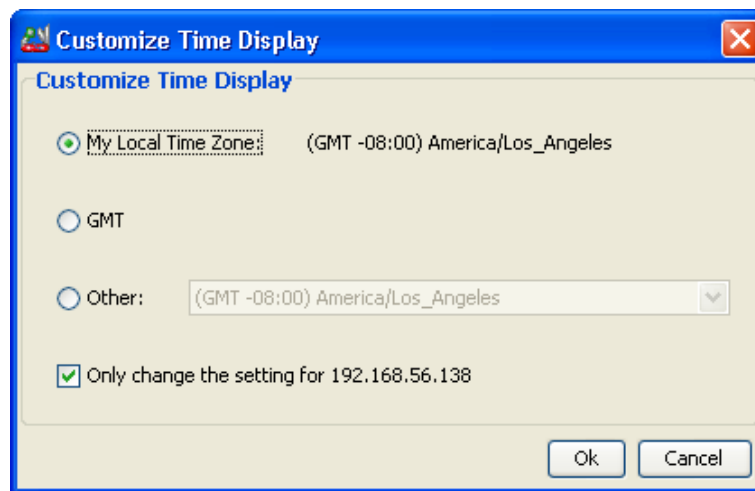

Figure 3-12. **Customize Time Display** Dialog Box
1. On the Tools menu, click **Customize Time Display**. The **Customize Time Display** dialog box appears (see Figure 3-12).